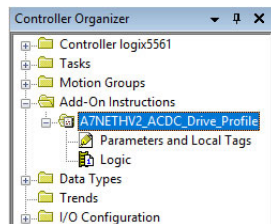

Figure 51: AC/DC Drive Profile Add-On Instruction
- Right click on “Add-On Instructions” in the controller organizer view and select “Import Add-On Instruction”. Browse and import the AC/DC drive profile add-on instruction. Refer to Figure 51.